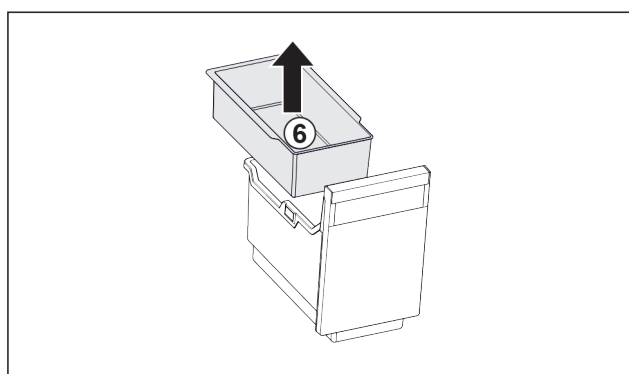

Fig. 30
- Remove the hang-on tray Fig. 30 (6).